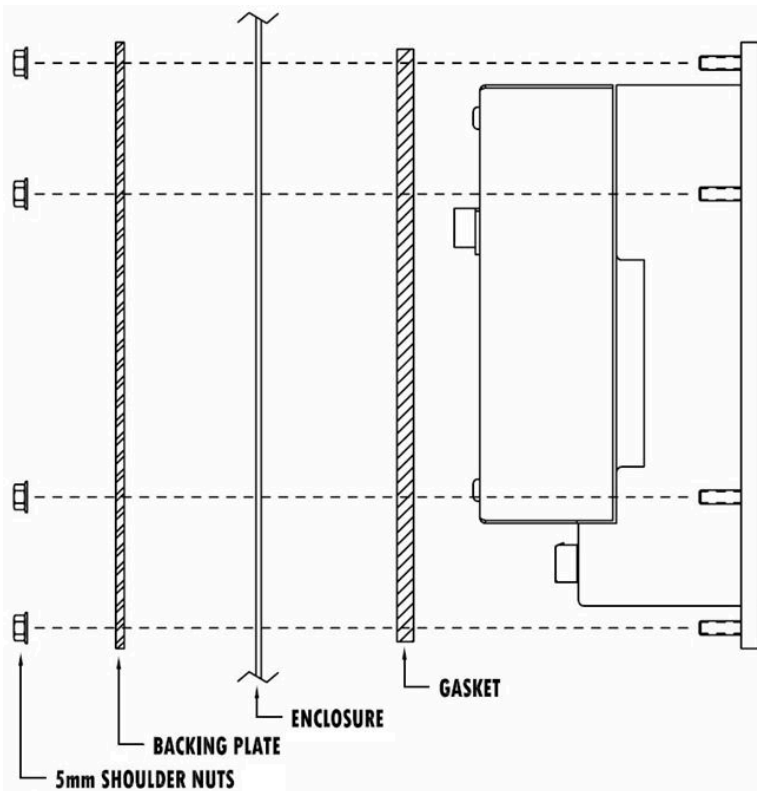

Figure A-5: Panel Mounting, Side View
3. Place the terminal through the cutout from the front and secure by fitting the backing plate over the back of the terminal, then installing and tightening the eight nuts until secure. Figure A-5 shows a side view of a panel installation.